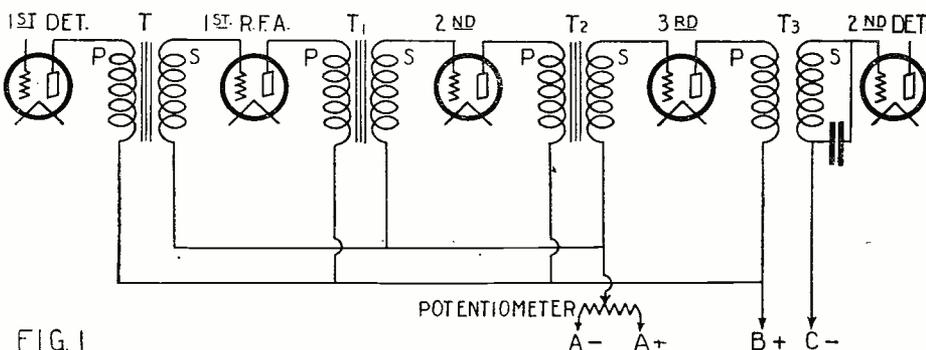

FIG. 1
ing actually \$1.00 each) whose primary inductance is notoriously low. The intermediate circuit is shown in Fig. 1; the entire circuit was the usual "super" arrangement. The tuned transformer was one of standard make, with a 30-kc. resonance peak. The test showed that these audio transformers made excellent 30-kc. "untuned" transformers; oscillation occurred, and everything was satisfactory.
Briefly, the simple test of Fig. 1 revealed that audio transformers permit too much R.F. (frequencies between 60- and 30-kc.) to pass through them and seem to act (at the lower end of the frequency scale) as voltage amplifiers to boot. Under such conditions the effort to isolate an audio amplifier (using such transformers) from R.F. on the order of 40-kc. requires by-pass condensers of unusually low capacity. Very low-capacity by-passes do damage to overtones and the higher audio frequencies, resulting in "mugginess" and lack of brilliancy in the reproduction. To avoid the necessity of low capacity by-
So far as the actual crystal circuit is concerned, there is of course very little scope for anything of a strikingly original nature. Quite recently, however, there has been a considerable vogue of arrangements for reducing the damping effect of the crystal. Fig. 1 shows a typical circuit in which the crystal detector is tapped across a part only, instead of the whole, of a coupled secondary circuit. In this way the load on the tuned circuit is reduced, detector damping is diminished, the selectivity of the tuned circuit is increased, and the resonant voltage available for producing signals in the 'phones is in consequence increased to a maximum.
The first of these requires getting into the receiver itself and making a small change in the wiring. Many R.F. amplifiers have the filament circuits grounded; that is, connected to the ground connection, either by a wire soldered in place, or by terminating the grid-returns at the tuning condensers, whose rotors are grounded to a metal panel, or otherwise. These connections are shown in Fig. 1. In Fig. 1A we have the ordinary grounding connection, in which the filament end, or the grid-return end, of the secondary coil is connected to the ground by means of a wire.
Fig. 1. (A) the ground connection may be removed, which will sometimes improve the selectivity. (B) Where the grounding connection is made through the framework of the receiver, or through a metal panel, the ground end of the primary is unsoldered and connected to the ground directly and the panel is not grounded.
But when you try this stunt, you must first look at your "B" socket unit if you are using one. Some of these instruments require grounding, and when so connected you may have the filament circuit of your receiver grounded through the eliminator. If this is the case, the changes indicated in Fig. 1 will be of no use, so that you will have to discard this method and choose another.